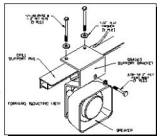

FIGURE 1
1) On the driver side of the vehicle, carefully insert the speaker assembly behind the bumper area. Place the top "wing" of the support bracket over the grill support rail (FIGURE 1) This is the area where the siren speaker will be mounted. After the speaker unit is oriented into it's mounting position, insert the 1/4-20 x 3" bolts from the top of the bracket. (FIGURE 1)